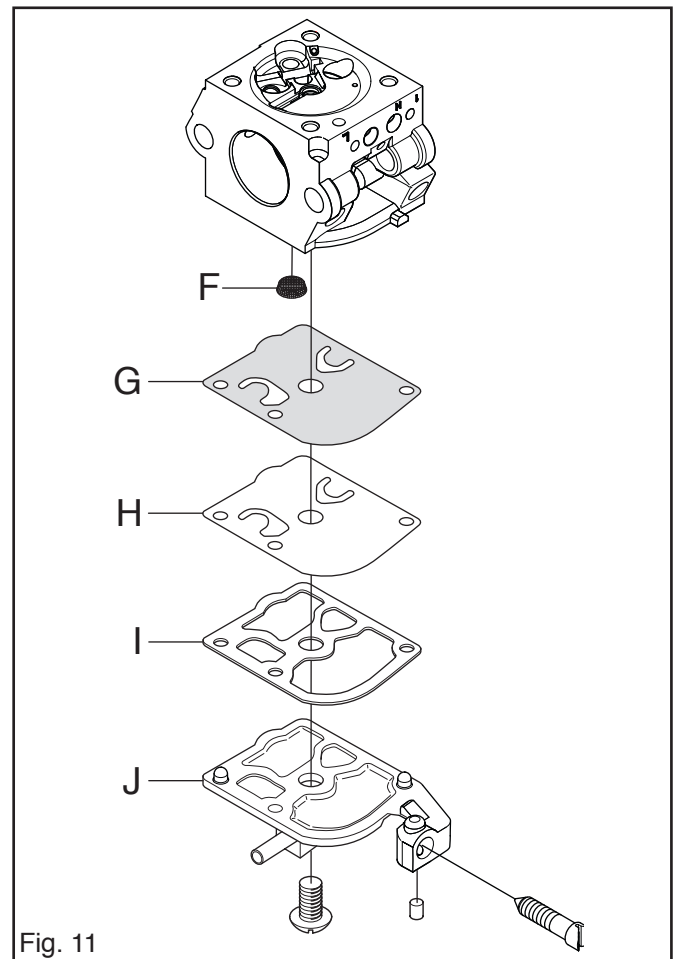

Fig. 11
10. Remove the cover (J) over the pump unit and carefully remove the gasket (I) and pump diaphragm (H and G). NOTE! The carburettor has two diaphragms. One pump diaphragm (G) and one backup diaphragm (H). See fig. 11.
11. Use a needle or the like to carefully remove the fuel filter (F). See fig. 11.
4. The fuel filter is undamaged. See L in fig. 11.